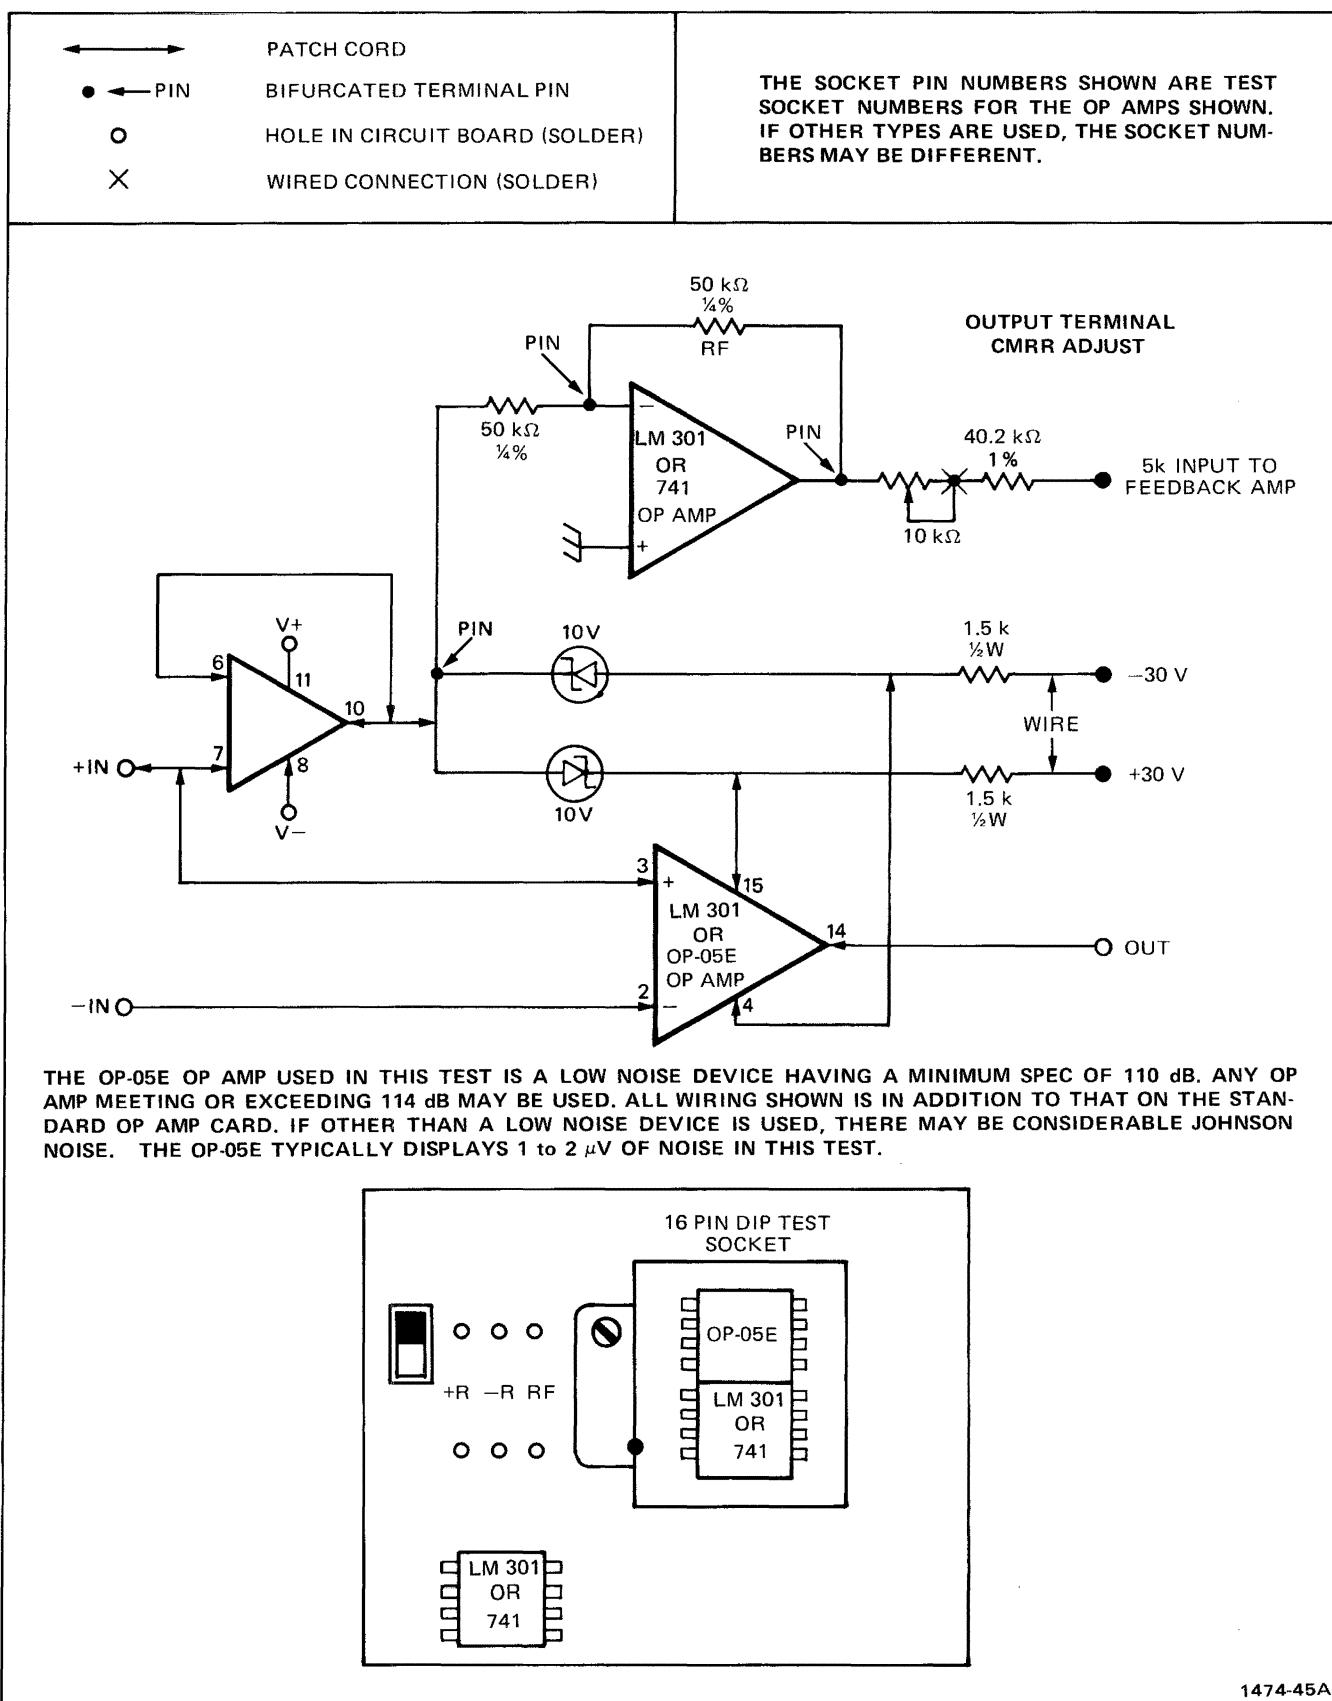

Fig. 5-6. Test circuit for CMRR adjust.
b. Construct the circuit of Fig. 5-6 on the standard Op Amp card. This method uses an op amp having good CMRR and drives its terminals common mode, thereby improving the op amp cmrr to ≈ 160 to 180 dB .
k. Press the DISPLAY ZERO button. Switch the External Feedback selector (to the left of the test socket, see Fig. 5-6), away from the NORM position.